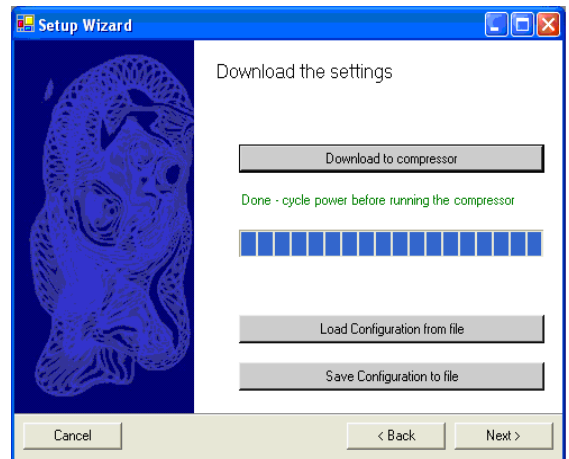

Figure 14 Download Settings Screen (After Download)
5. When the message “Done. Cycle power before running the compressor” appears, turn OFF power to the compressor; refer to Figure 14. Wait at least 5 minutes, then check that the LEDs on the Backplane are OFF.